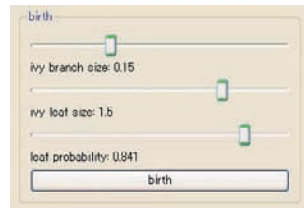

Figure 7.46
7. When you are satisfied with the pattern of the ivy, set the Birth parameters to values similar to those in Figure 7.46. The Birth parameters are pretty self-explanatory. They are as follows: